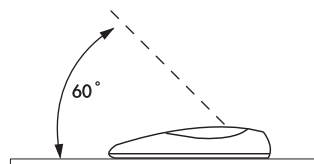

Figure 2
2. The sound source should not be below or higher than 60 degree above the level of the mounting surface for efficiency miking. (Figure2)